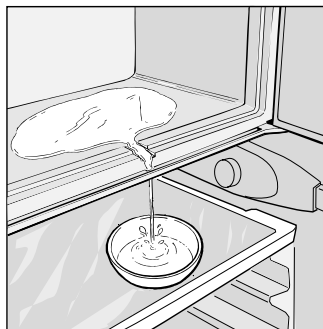

Fig. 6
- Turn the temperature control (A) to the ● setting.
- Collect the defrost water as shown (Fig.6).